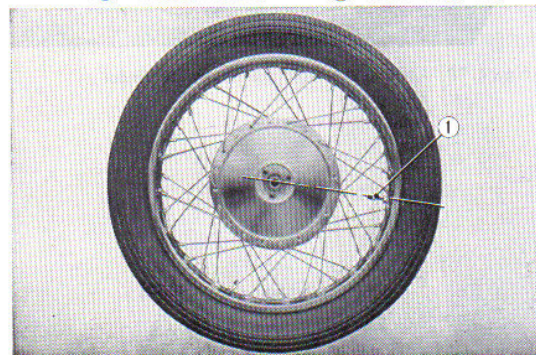

Fig. 4.82 Position of the valve stem
- (b) The valve stem should be positioned pointing toward the axle to prevent damage to the tube. (Fig. 4.82)